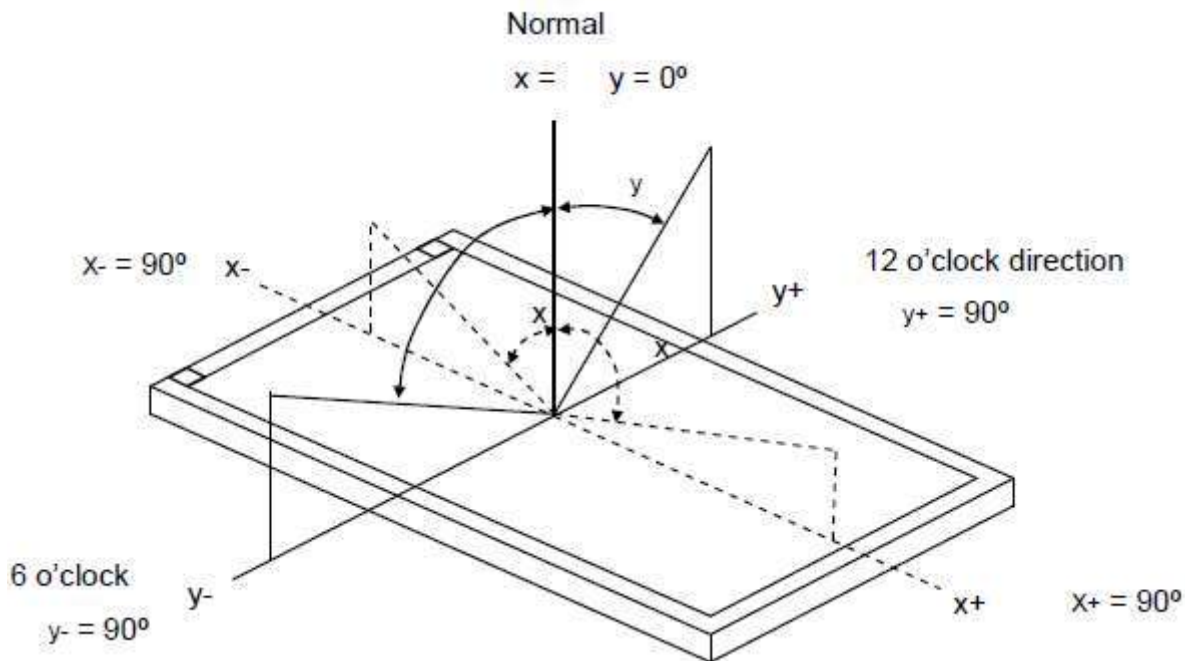

Figure 9. Definition of Viewing angle
(8) Definition of Viewing angle:
As Note (4) the static contrast ratio definition, the viewing angles are defined at the angle that the contrast ratio is larger than 10 at four directions relative to the perpendicular direction of the Guoyu's module (two vertical angles: up θ_{y+} and down θ_{y-} ; and two horizontal angles: right θ_{x+} and left θ_{x-}). The standard setup of measurement is shown in Figure 9&10.